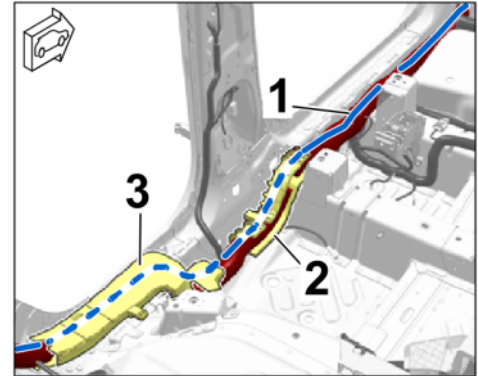

Figure 18
3.2.2 Door sill area, left (⇒ Figure 18)